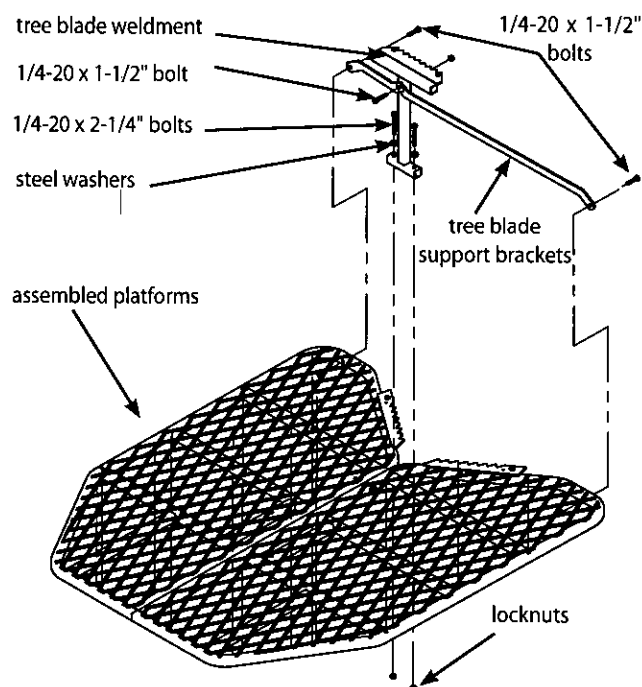

Figure 4
6. Attach the tree blade weldment (112ML73) to the top side of assembled platforms (near welded on platform tree blades) using (2) provided 1/4-20 x 2-1/4" bolts, locknuts and steel washers. **SEE FIGURE 4.**
7. Attach (2) tree blade support braces (112ML76) to the front side of tree blade weldment and back side of the assembled platforms using (3) 1/4-20 x 1-1/2" bolts and (3) locknuts. **SEE FIGURE 4. Pay special attention to the orientation of the support braces shown in figure 4.**